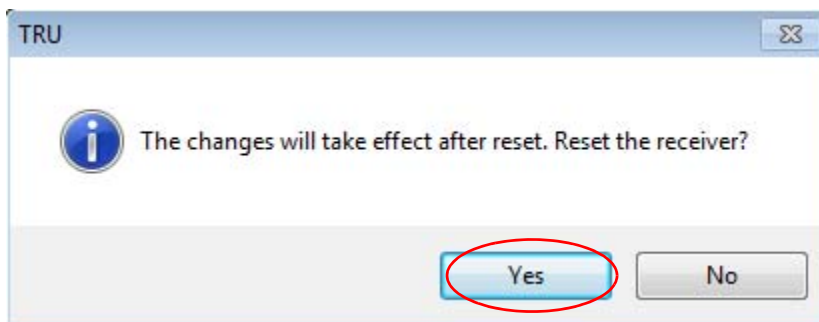

Figure 53: Reset Receiver
- Click **Yes** at the prompt to reset the receiver (Figure 53).